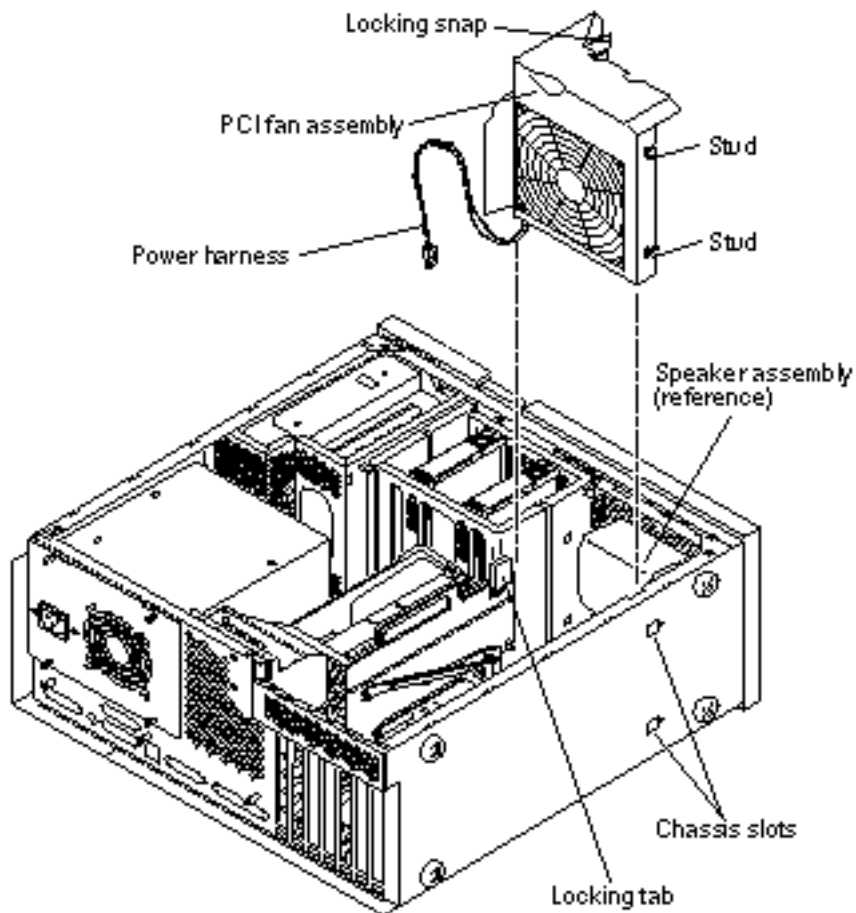

Figure 1-7 Removing and Replacing the PCI Fan Assembly
6. Remove the PCI fan assembly (Figure 1-7):
7. Replace the PCI fan assembly (Figure 1-7):